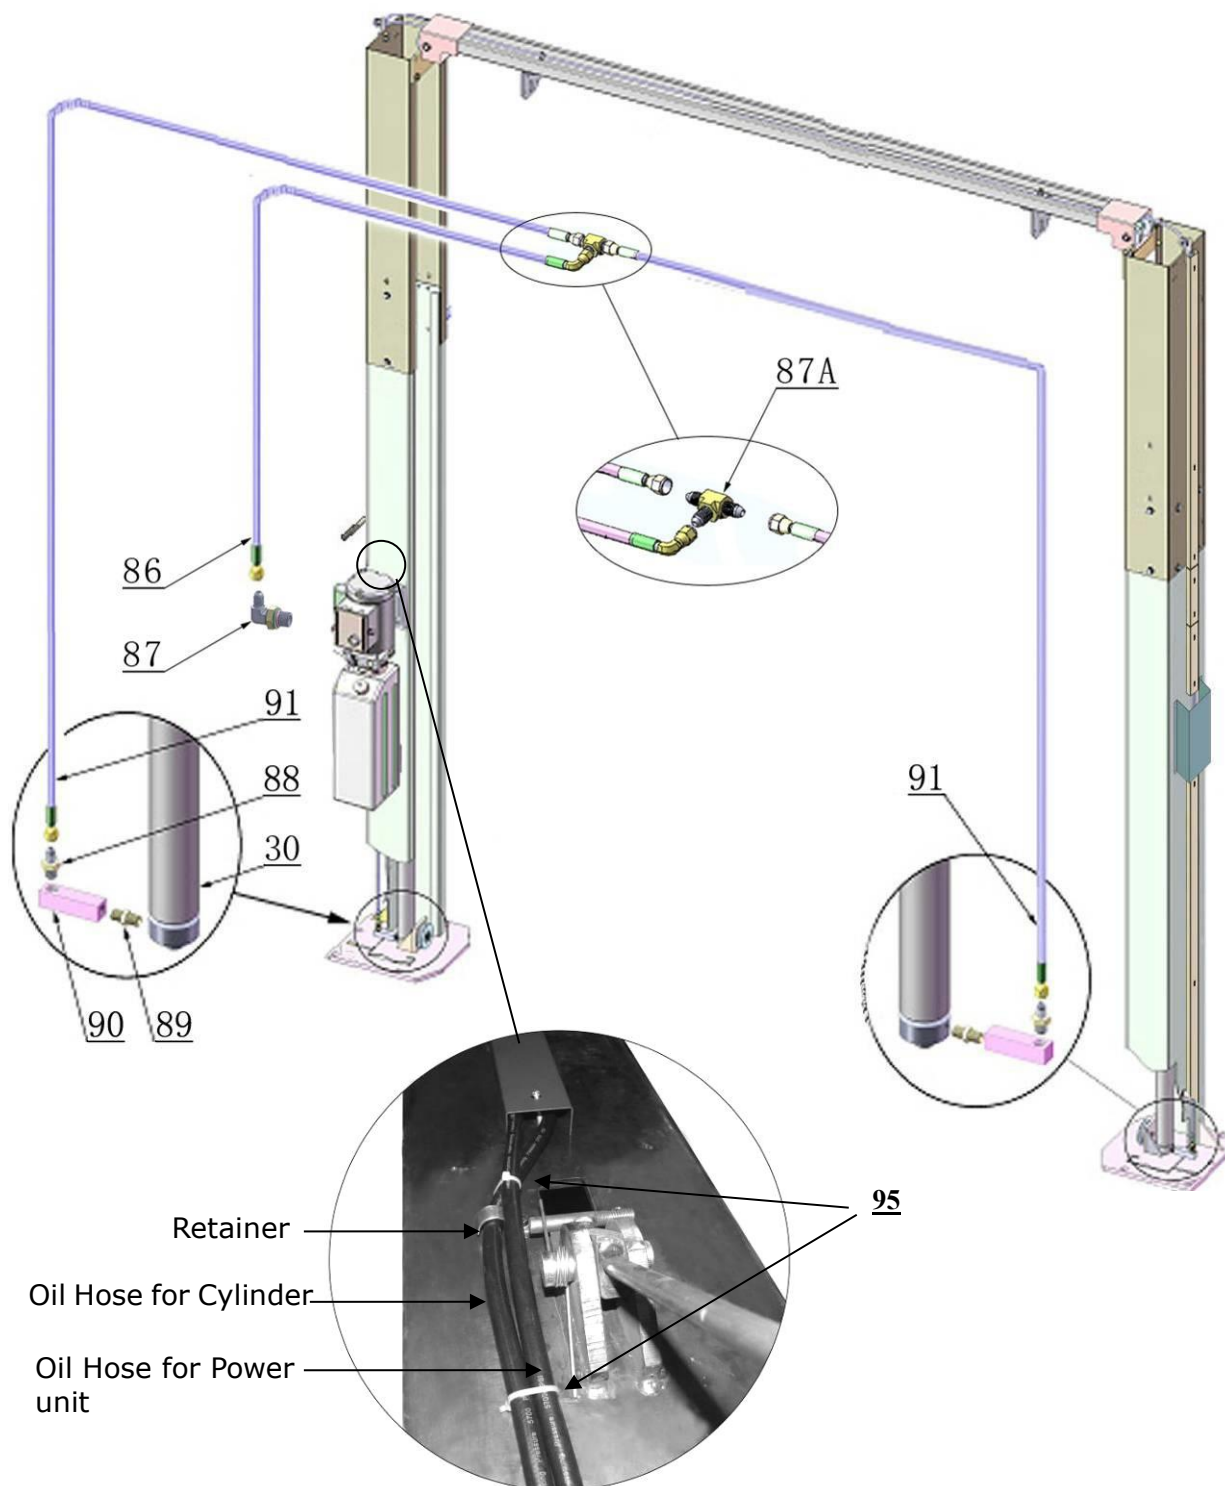

Fig. 27
L. Install hydraulic power unit and oil hose assy. (See Fig. 27).